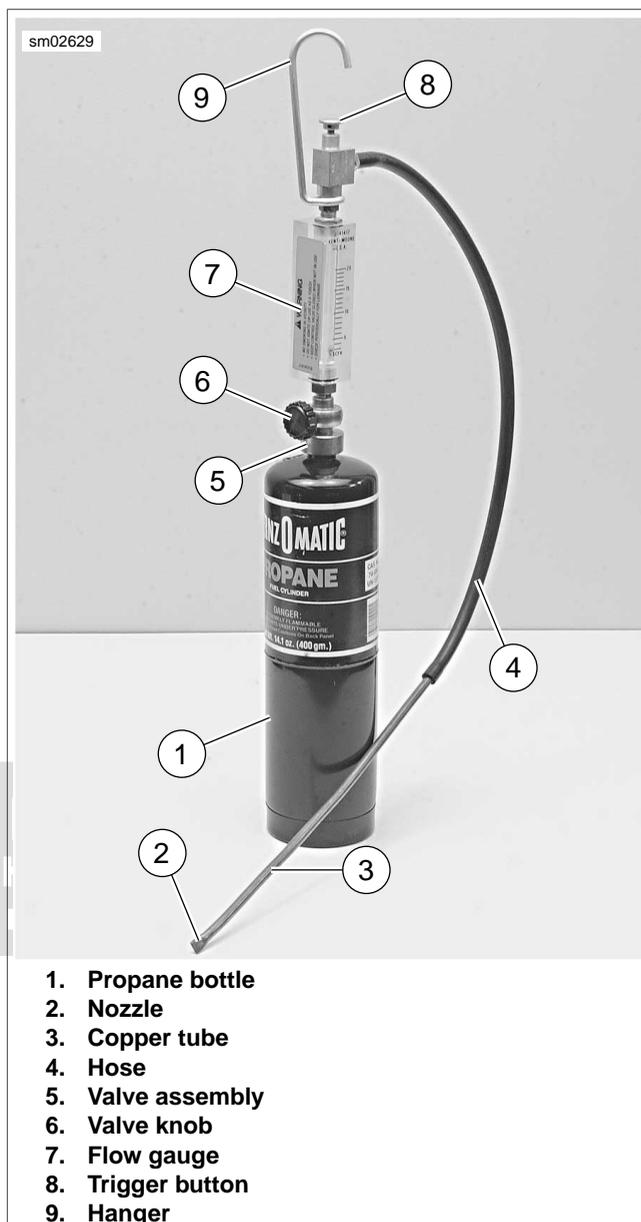

Figure 4-43. Leak Tester
1. See Figure 4-43. Make sure valve knob (6) is closed (fully clockwise).
2. Screw valve assembly (5) onto propane bottle (1).
1. See Figure 4-43. Press and hold trigger button (8).
2. Slowly open valve knob (6) until pellet in flow gauge (7) rises to between 5 and 10 SCFH on gauge.